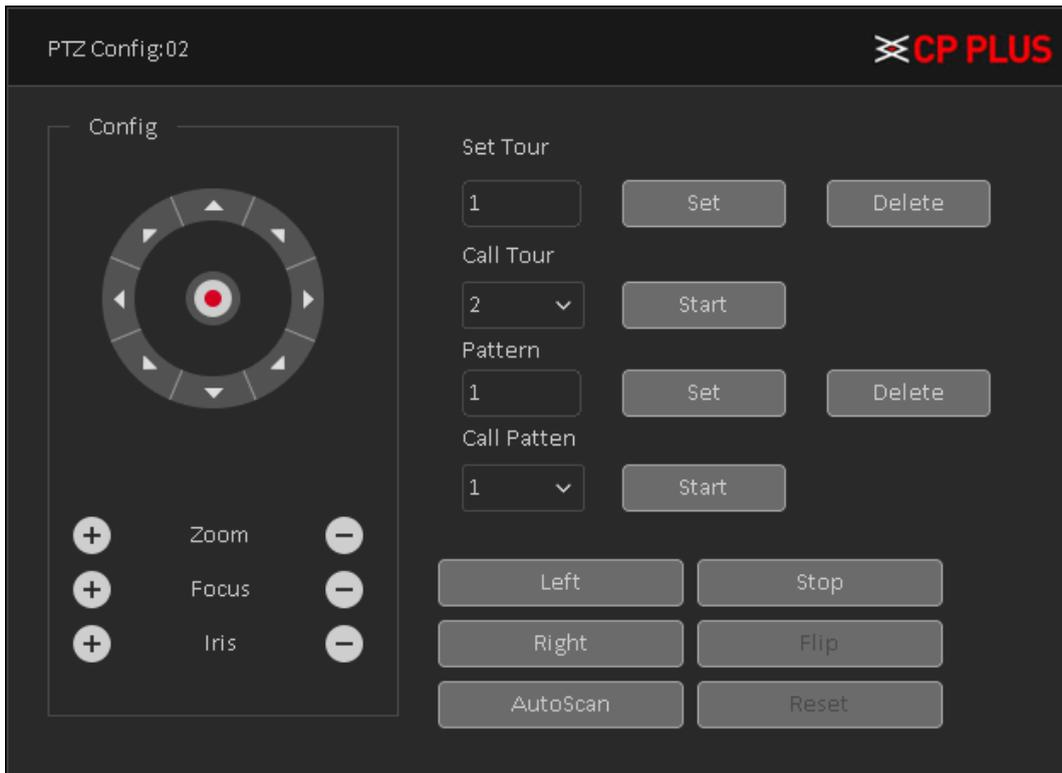

Figure 3.29
- To stop Auto Pan, click on **Stop** button. See Figure 3.29